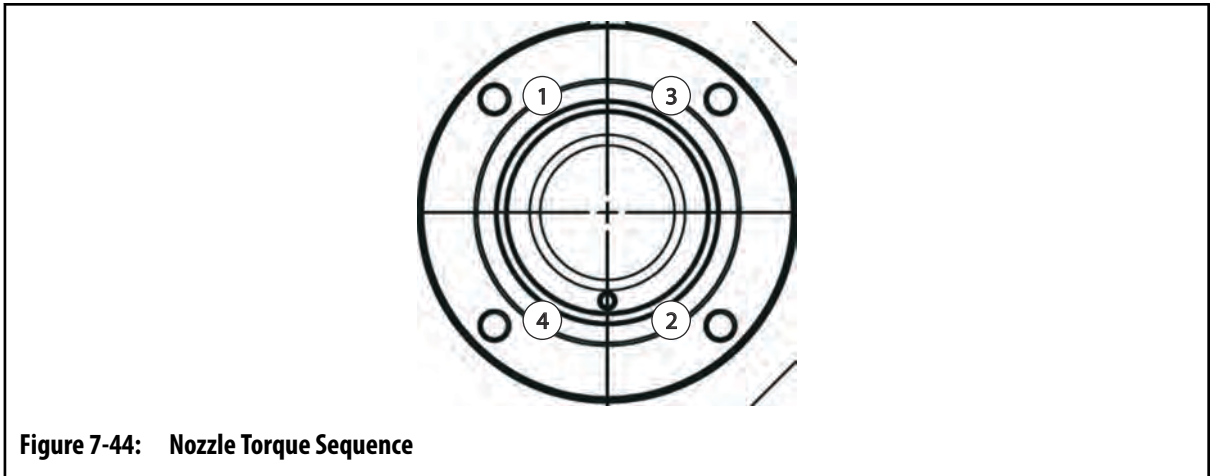

Figure 7-44: Nozzle Torque Sequence
7. Apply high temperature anti-seize and tighten the four SHCS that secure the nozzle to the manifold following a sequence (Figure 7-44) and tightening in 30-70-100% torque increments. Refer to the *SSB Assembly and Installation* drawing for torque value.